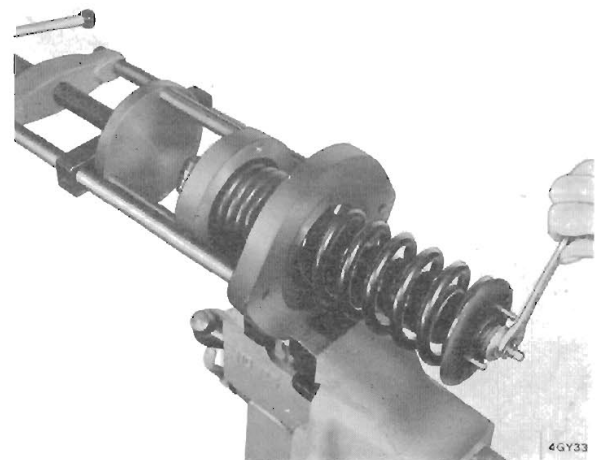

Fig. 29. Using press S.4221A with adaptor S.4221A-5 to compress the front road spring
- 2. Using a press, compress as many coils of the road spring just sufficient to relieve the load from the damper top nuts. Fig. 29.
- 3. Remove the locknut (1), nut (2), washer (3) and rubber (5) from the top of the damper.
- 5. Withdraw the damper (11) from the upper spring pan (7) and road spring (10).
- 6. Remove the lower spring pan (12) and collets (13) from the damper (Woodhead-Monroe type only).
- 1. Fit the washer (9) and rubber (8) to the top of the damper (11).
- 2. Fit the collets (13) and lower spring pan (12) to the damper (Woodhead-Monroe type only).
- 3. Extend the damper (11) and insert it into the road spring (10) and upper spring pan (7).
- 4. Using a press, compress the road spring sufficient to enable the completion of the damper attachment to the upper spring pan, Fig. 29.
- 5. Fit the rubber (5), the washer (3), nut (2) and locknut (1).